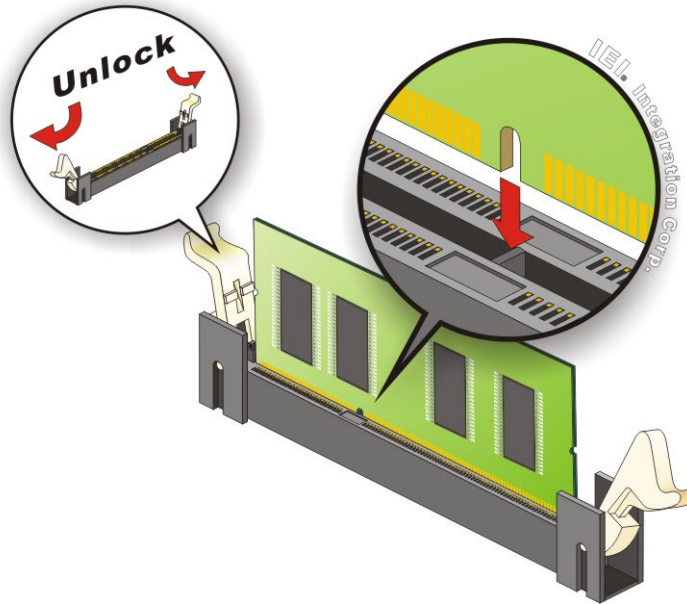

Figure 4-2: SO-DIMM Module Installation
Step 3: Push the two handles outwards (**Figure 4-2**). The memory module is ejected by a mechanism in the socket.
Step 5: Align the new SO-DIMM so the notch on the memory lines up with the notch on the memory socket (**Figure 4-2**).